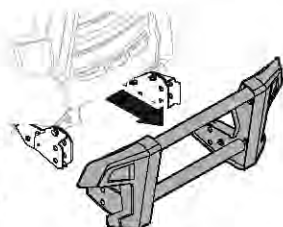

Figure 58
2. The brush guard assembly may now be removed. See Figure 58.